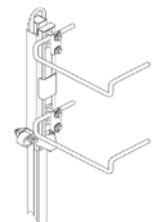

Figure 6
1. Where rungs are installed in precast concrete and risers are too narrow to permit center mounting, attach safety post to rungs as shown in Figure 6.